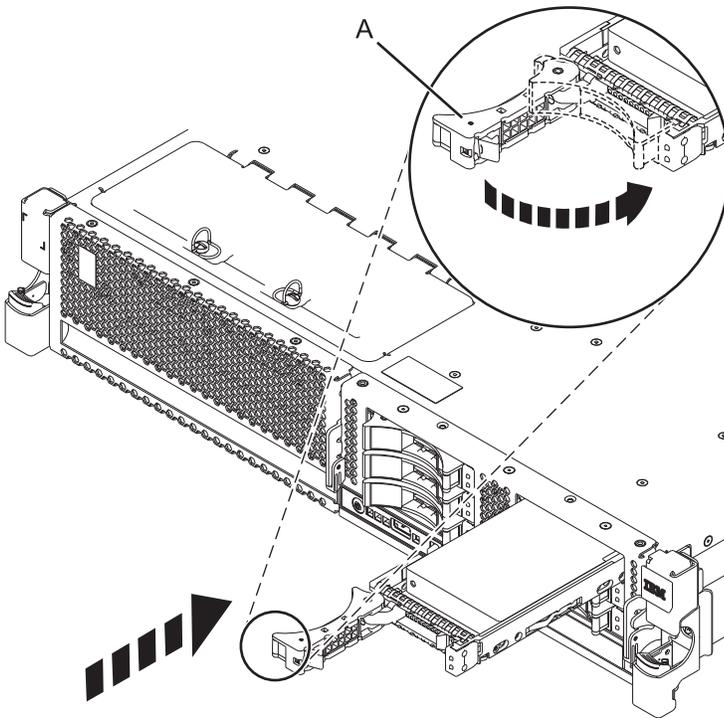

Figure 32. Installing a disk drive in the 8231-E2B, 8231-E1C, or 8231-E2C
11. When the service indicator starts flashing, slide the disk drive all the way into the system or expansion unit, and push the disk drive handle (A) in until it locks, as shown in Figure 32.